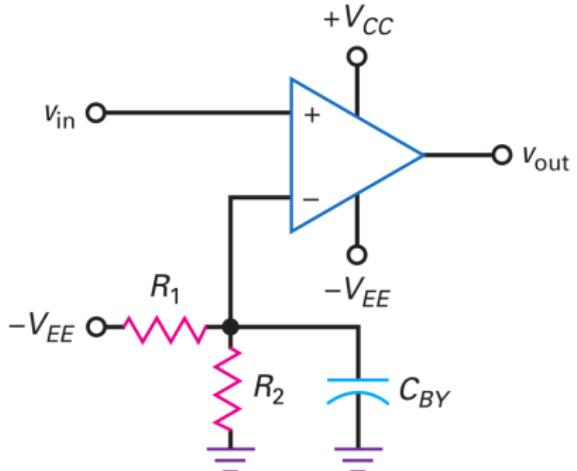

Figure 17: Negative threshold
- ▶ If a negative limit is preferred, connect $-V_{EE}$ to the voltage divider, as shown in Fig. 17.